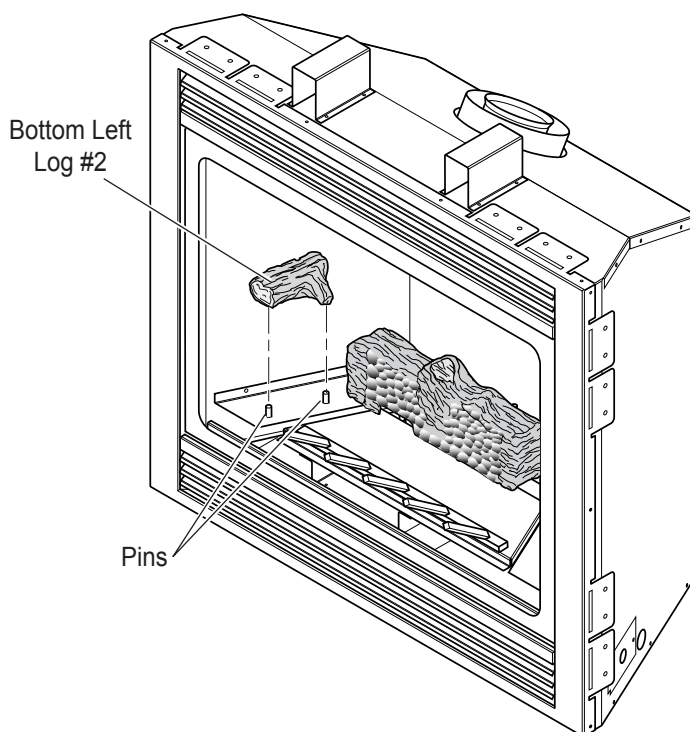

Figure 39 - Placing Bottom Left Log (#2) in Front of Rear Log
2. Place left bottom log (#2) in front of rear log. Line up the holes in the bottom left with log with the pins on the logs support bracket. See *Figure 39*.